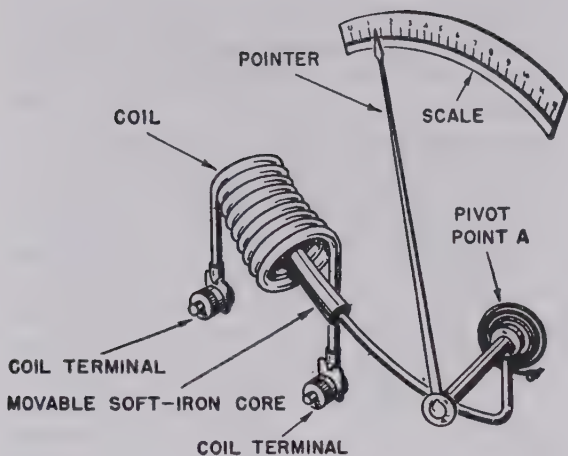

Figure 3. Moving-iron meter, plunger type.
- (2) *Plunger type*. The movable soft-iron bar with a pointer attached is placed partially inside the fixed coil (fig. 3), and the pointer-bar assembly is fastened to a pivot, A. When current flows through the coil, a magnetic field is set up. The soft-iron bar becomes magnetized and is pulled farther into the coil, moving the pointer. The distance the pointer is moved is proportional to the strength of the magnetic field, which depends on the amount of current through the coil. The plunger type was an early meter used to measure ac and is now obsolete.